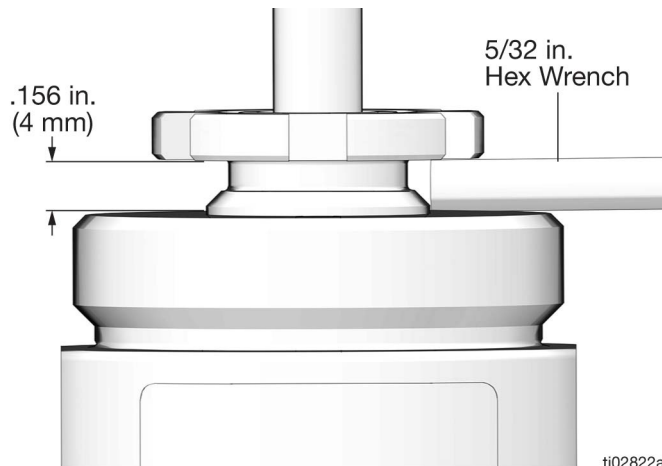

FIG. 27:
7. Set the height of the packing nut (210) with a hex key to .156 in. (4.0 mm) (FIG. 27).